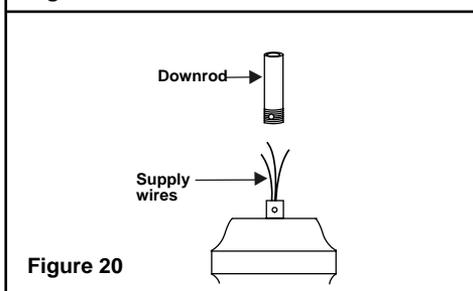

Figure 20
Step 3. Carefully feed fan wires up through the downrod. (Fig. 20) Thread the rod into the coupling. Next line up holes and replace lock pin and hitch pin. Tighten set screws.